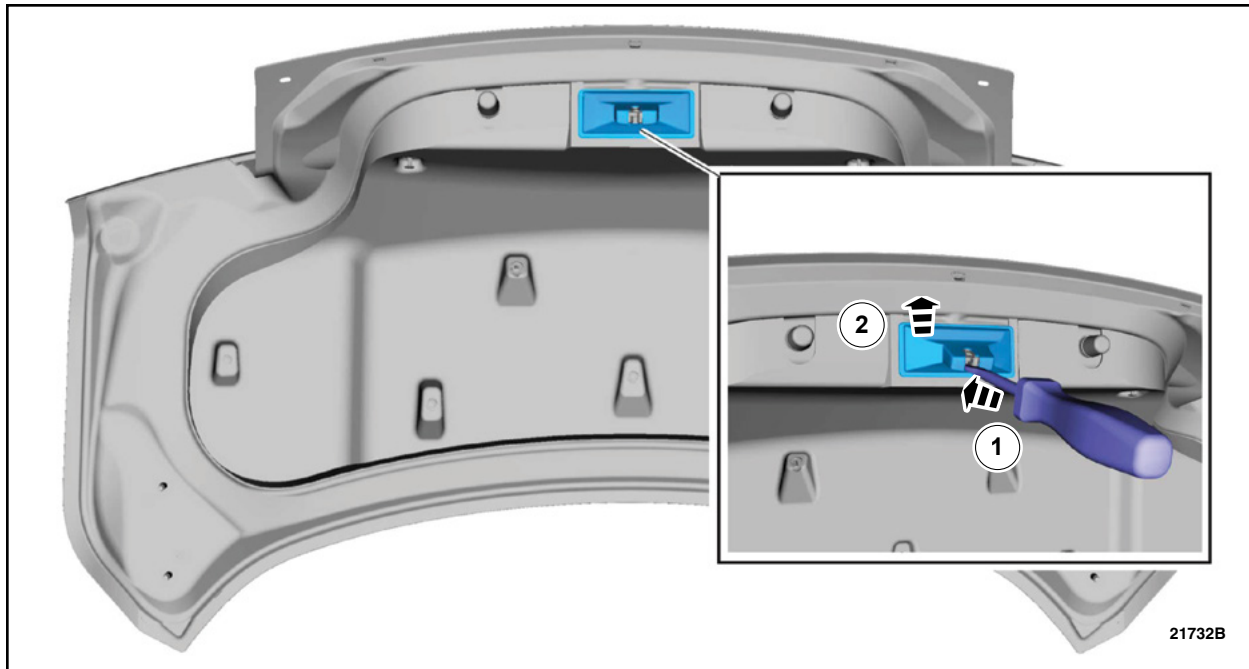

FIGURE 7
19. Remove the luggage compartment lid latch cover. See Figure 7.